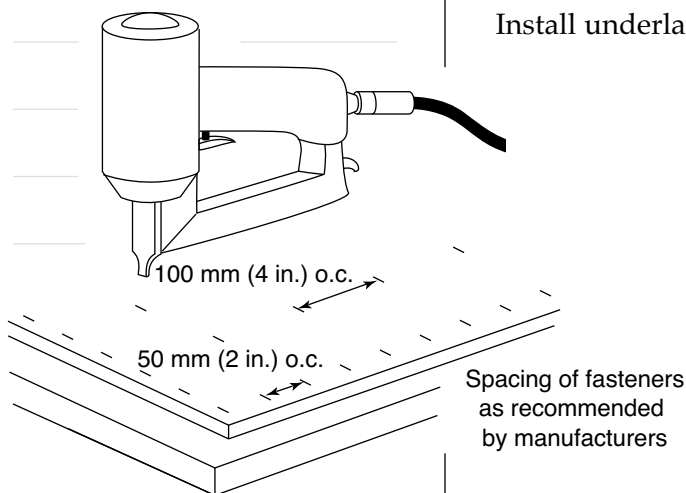

FIGURE 6
- ◆ Fastening the underlay panels is critical to eliminating movement. The NBC requires that staples, annular grooved floor nails, or spiral nails be installed not more than 150 mm (6 in.) o.c. along the edges and not more than 200 mm (8 in.) o.c. both ways at other locations. The underlay manufacturers recommend even closer spacings between 50 mm (2 in.) o.c. and 100 mm (4 in.) o.c. along edges and between 100 mm (4 in.) o.c. and 150 mm (6 in.) o.c. at other locations (see Figure 6).